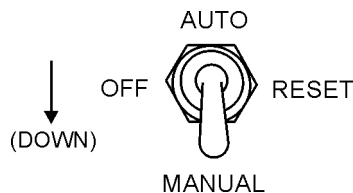

Figure 22. Off/Manual/Auto Switch (Manual)
6. If the generator is equipped with the Microprocessor Engine Controller (MPEC), place the Off/Manual/Auto switch (Figure 22) in the **MANUAL** position (down). Observe that the engine begins to crank.